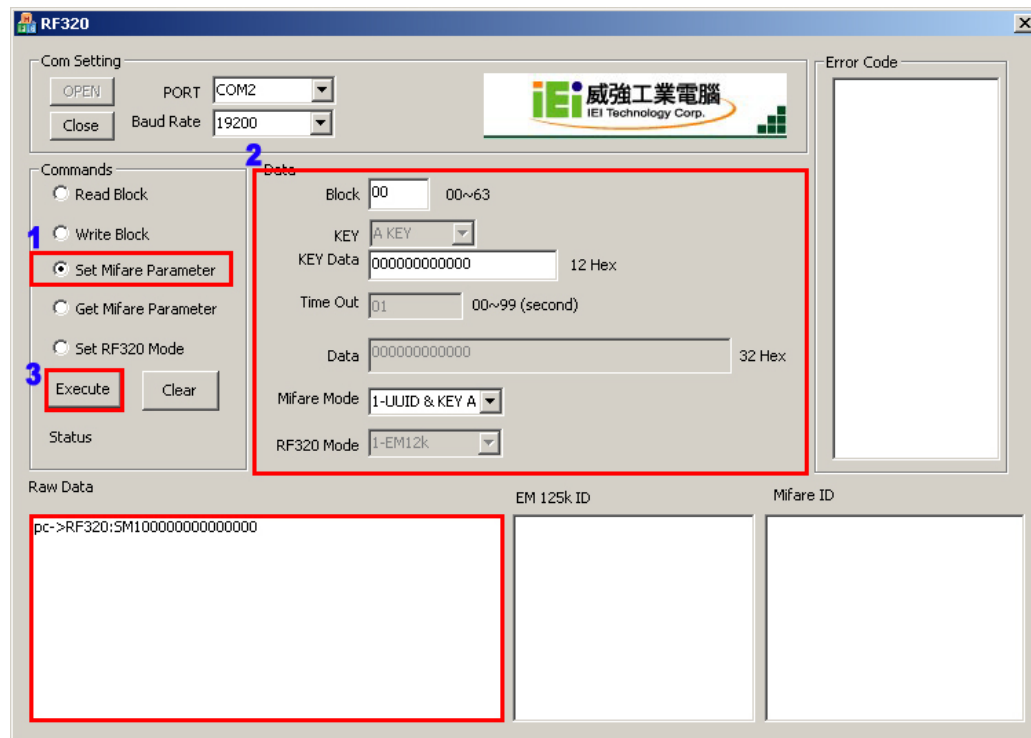

Figure 5-8: Set Mifare Parameter
Step 1: Select **Set Mifare Parameter** in the command area (**Figure 5-8**).
Step 3: Configure the block number, and key data (**Figure 5-8**).
Step 4: Click the **Execute** button to execute the command through the selected serial port (**Figure 5-8**). The raw data of this command shows in the Raw Data area in the format listed in **Table 5-6** and **Table 5-7**.